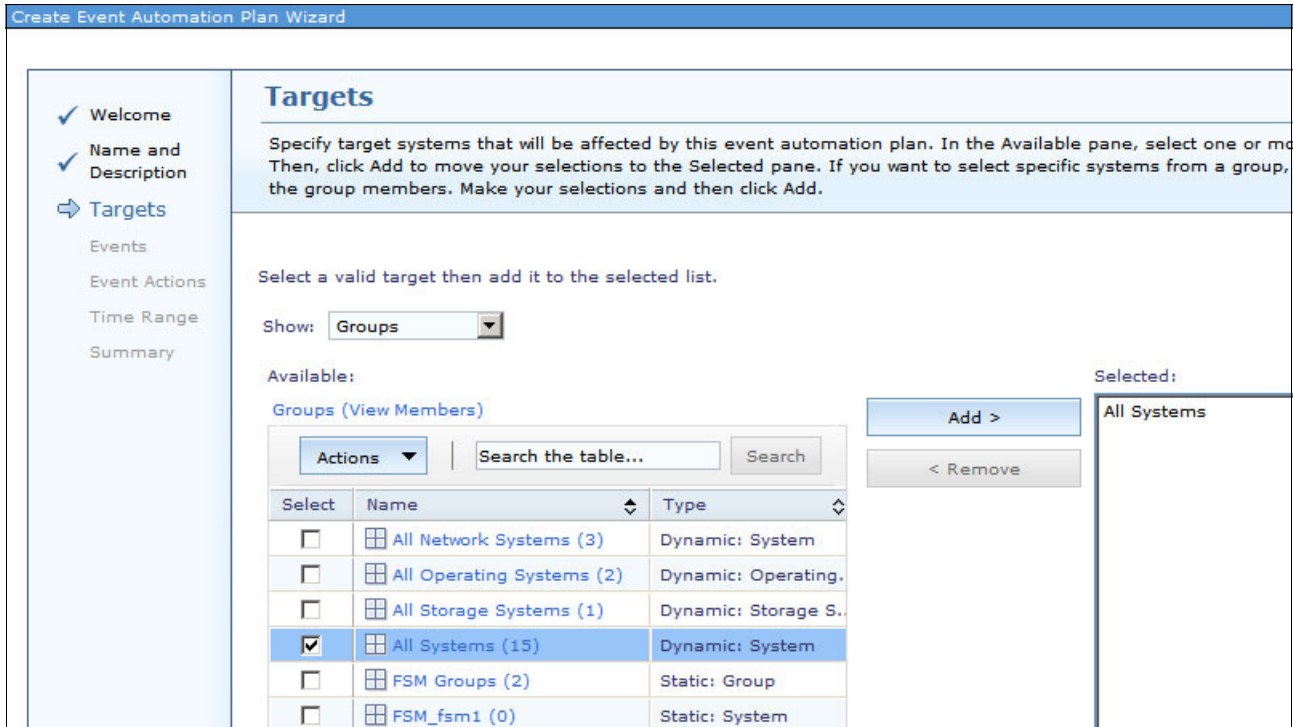

Figure 7-19 Create Event Automation Plan Wizard Targets window
- In the Targets window, select the systems that the event automation plan will monitor for specific generated events. Select **All Systems** in the Available list and click **Add** to move them to the Selected list (Figure 7-19). Click **Next**.